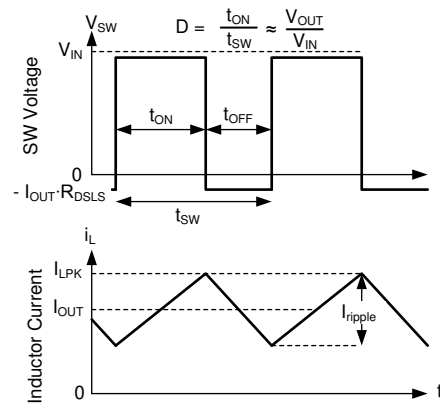

图 22. SW Voltage and Inductor Current Waveforms in Continuous Conduction Mode (CCM)
The following operating description of the LM61435-Q1 refers to the Functional Block Diagram and to the waveforms in 图 22. In CCM, the LM61435-Q1 supplies a regulated output voltage by turning on the internal high-side (HS) and low-side (LS) NMOS switches with varying duty cycle (D). During the HS switch on-time, the SW pin voltage, V_{SW} , swings up to approximately V_{IN} , and the inductor current, i_L , increases with a linear slope. The HS switch is turned off by the control logic. During the HS switch off-time, t_{OFF} , the LS switch is turned on. Inductor current discharges through the LS switch, which forces the V_{SW} to swing below ground by the voltage drop across the LS switch. The converter loop adjusts the duty cycle to maintain a constant output voltage. D is defined by the on-time of the HS switch over the switching period: